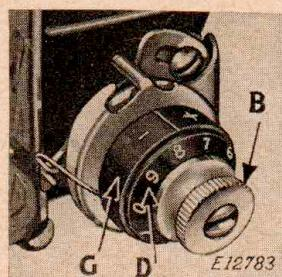
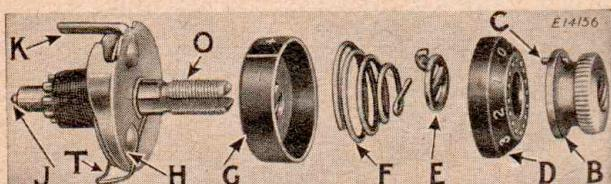

FIG. 19. NEEDLE THREAD TENSION
FIG. 20
CAUTION—It is important for the tension thumb nut (B, Fig. 19) to have a firm fit on tension stud (O, Fig. 20, page 20) to keep the numbered dial (D) in the position set for the required tension. To remedy a loose fit of the nut, remove parts B, D, E, F and G, Fig. 20, and slightly spread the stud, then re-assemble the parts as instructed on pages 20 to 23 inclusive.
The numbered dial (D, Fig. 19) is marked with arbitrary numbers ranging from 0 to 9 which indicate different degrees of tension that can be produced. The numbers do not denote a particular size of thread. By noting the number which is opposite the center line between the plus and minus signs, on the indicator (G) when set for a satisfactory tension on the work being stitched, the number can be readily reverted to when a change is made in the tension or size of thread.
Turn the thumb nut (B, Fig. 20) to the left until it stops at "0" on the numbered dial, then press in
Note. It is not necessary to remove the stud (O, Fig. 20) from the machine arm in order to disassemble the thread tension. It is shown removed, in Fig. 20, only for the purpose of illustration.
First make sure that the tension releasing pin (J), only the end of which is shown in Fig. 20, is in place in the stud (O).
Guide the tension disc assembly onto the stud so that the extension (K, Fig. 20) of the thread guard enters the hole in the machine arm, and the tail (inside the coil) of the thread take-up spring enters one of the grooves in the stud. Next replace the indicator with the large open side facing the end of
the stud so that the plus and minus marks will be at the top (with the minus sign at the left) and hold the parts, thus assembled, against the shoulder of the stud. Then insert the tension spring (F, Fig. 20) in the indicator with the first (half) coil of the spring